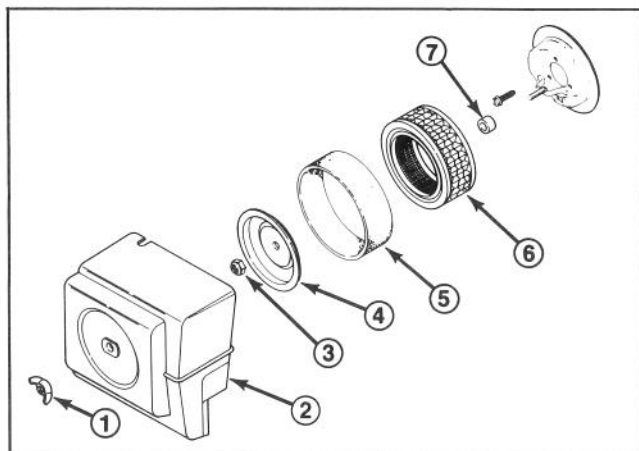

Figure 31
1. Remove wing nut and cover (Fig. 31).
2. Remove foam pre-cleaner by sliding it off the paper element (Fig. 31).
5. Reinstall element with pre-cleaner, element cover seal, air cleaner element cover, nut, air cleaner cover and wing nut (Fig. 31).